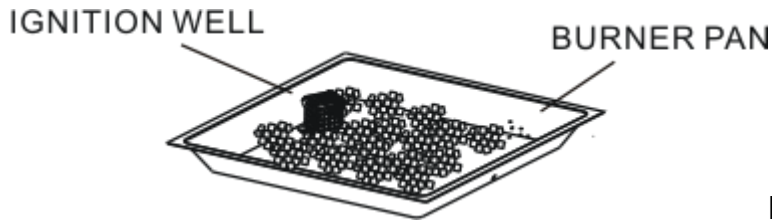

Figure 5
4. Pour the lava rocks or fire ice into the burner pan completely covering the burner. The weight of lava rocks is (3.6kg plus and minus 10%); the weight of the fire ice is (8kg plus and minus 10%). Remove any lava rocks or fire ice on top of the ignition well. See Figure 5.